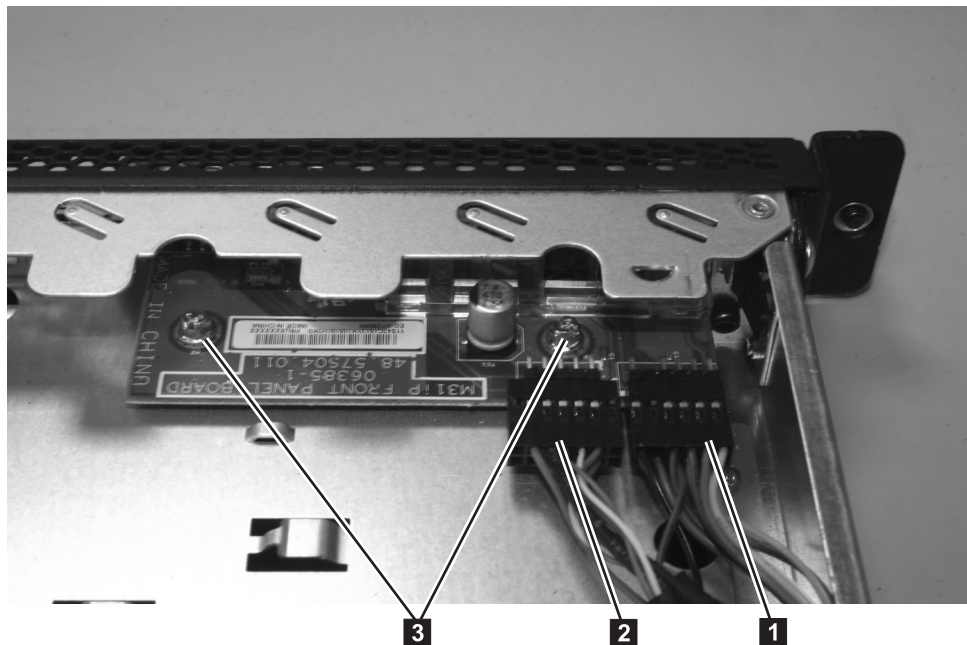

Figure 167. SAN Volume Controller 2145-8A4 operator-information panel
6. Disconnect the light-panel cable **1** and the USB cable **2** from the operator-information panel board shown in Figure 167.